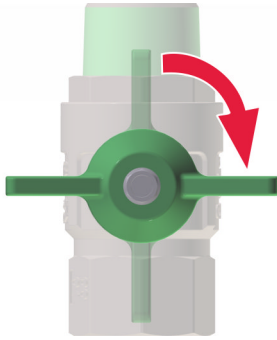

Fig. 24: Close the main shut off valves
1. ➤ Close all main shut off valves (Fig. 24) on the fresh water station.